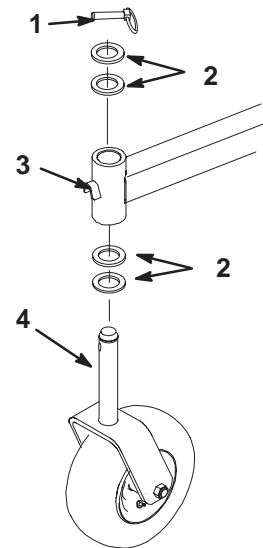

Figure 63
2. Remove the locking pin and spacer(s) from the top of the castor wheel fork (Fig. 63).
6. Inspect the castor wheel fork for wear and replace if necessary (Fig. 63).
7. Slide the castor wheel fork through the bushings in the mounting tube. Replace the spacer(s) onto the fork and secure with the retaining ring (Fig. 63).